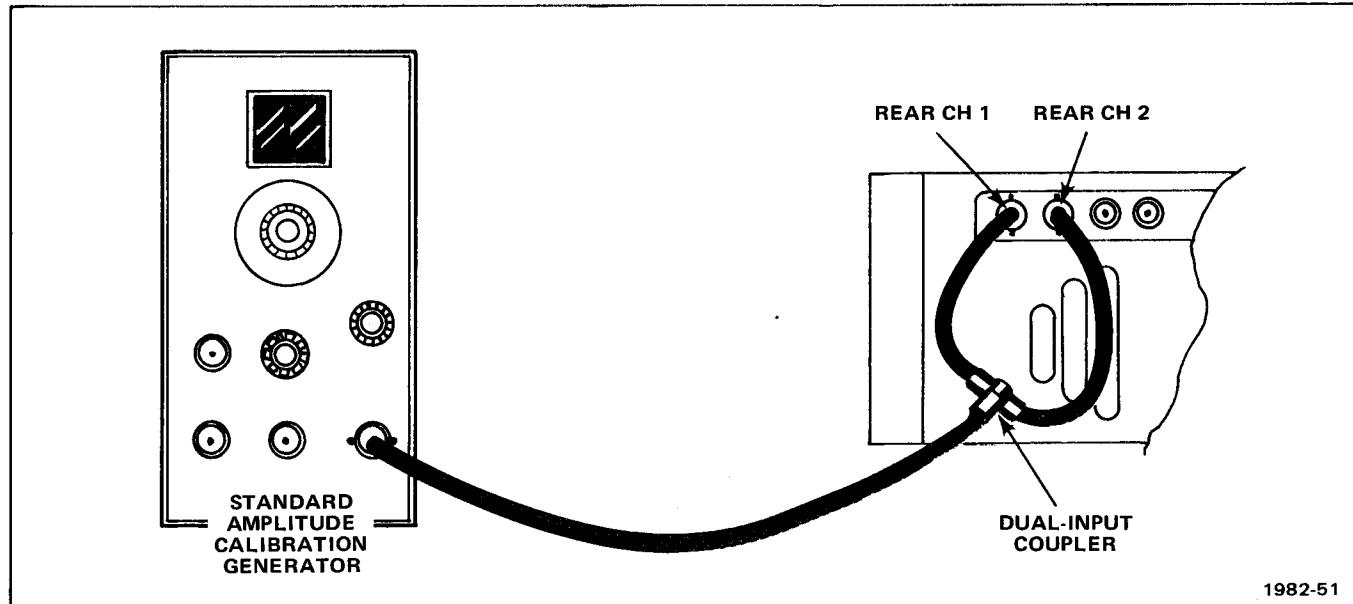

Fig. 3-2. T922R rear input test setup.
- b. Connect test equipment as shown in Figure 3-2.
- a. Disconnect BNC cable from dual input coupler and connect it to rear-panel EXT TRIG or X input (see Fig. 3-2).